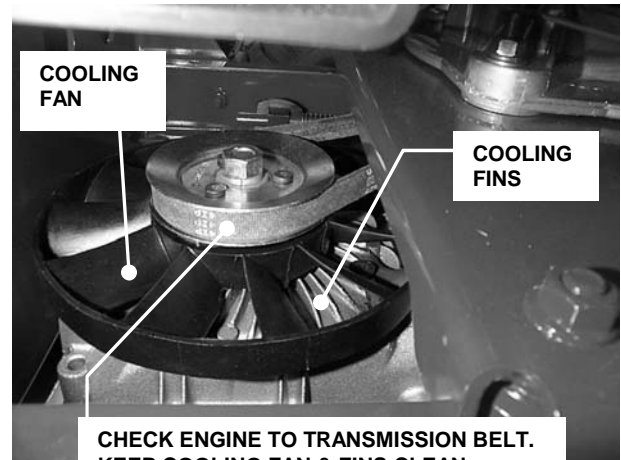

FIGURE 3.7
1. Transmission belt does not require tension adjustment. Visually check for signs of deterioration. Replace if worn or damaged. Refer to Section "TRANSMISSION BELT REPLACEMENT". See Figure 3.7.
3. Transmission requires no fluid level check or fluid change. Check transmission cooling fan and cooling fins. Keep these items clean and free of debris build up. See Figure 3.7.